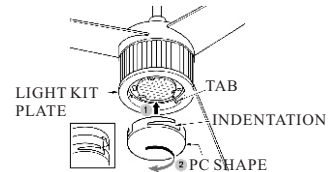

FIG.17
6. Attach the PC shade by locating tabs in light kit with grooves on the light shade and twist clockwise until tight (see Fig.17)